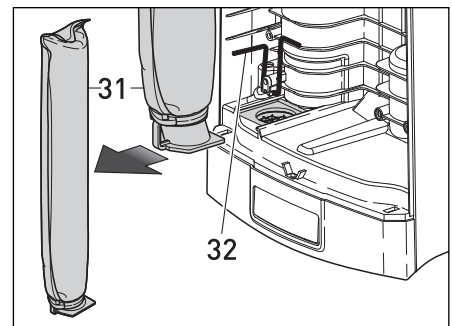

Figure 10
## Changing the Pre-motor Microfilter - Figure 10
3. Microfilter not properly inserted.	3. Lift safety lever and insert filter with vertical plastic ridge on filter facing you (see pg. 10, figure 10).